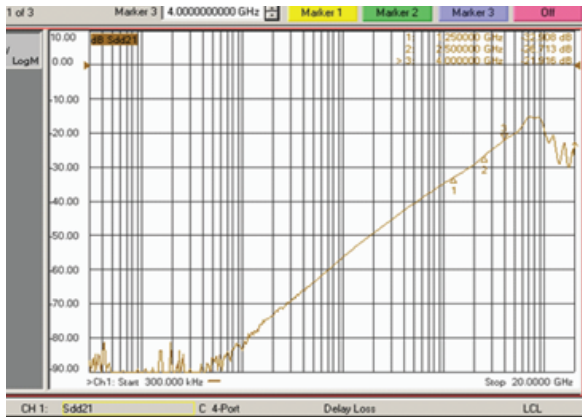

Fig.3 Off Isolation for PI3USB304
5. **Off Isolation** is the amount of noise picked in a switch in OFF state from adjacent switch in ON state. Isolation becomes more important at higher frequencies such as USB 3.0 (5Gbps or 2.5GHz), PCIe 3.0 (8Gbps or 4GHz), etc. High isolation reduces the influence of signals from other channels, sustains the integrity of the measured signal, and reduces system measurement uncertainties. Fig 3. plots the Off Isolation for Pericom's PI3USB304 (-26.7dB@2.5GHz)